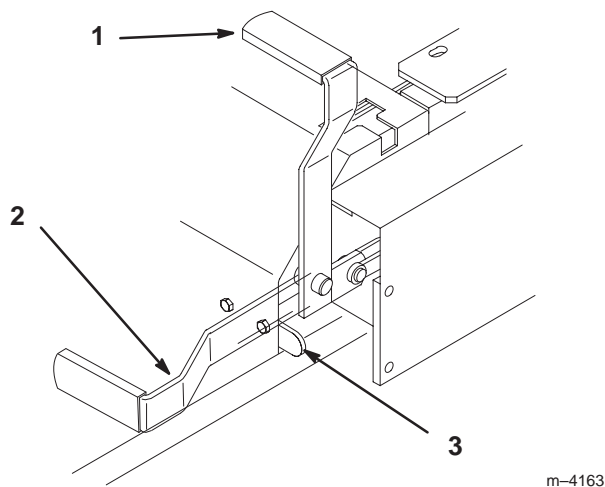

Figure 9
2. Pull back and up on the parking brake lever to set the parking brake (Fig. 9). The parking brake lever should stay firmly in the Engaged position.
Push forward and down on the parking brake lever to release the parking brake (Fig. 9). The parking brake is disengaged and the lever rests against the brake stop.